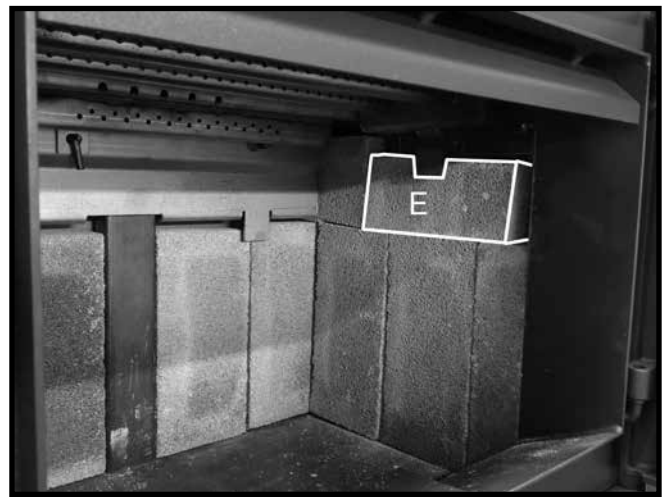

Figure 19: Final side wall firebrick in position.
4. Slide an "E" firebrick under the side wall brick rail tab and rest on top of the three previously placed side wall firebricks (Figure 19). Repeat steps 2-4 on the other side (Figure 19).